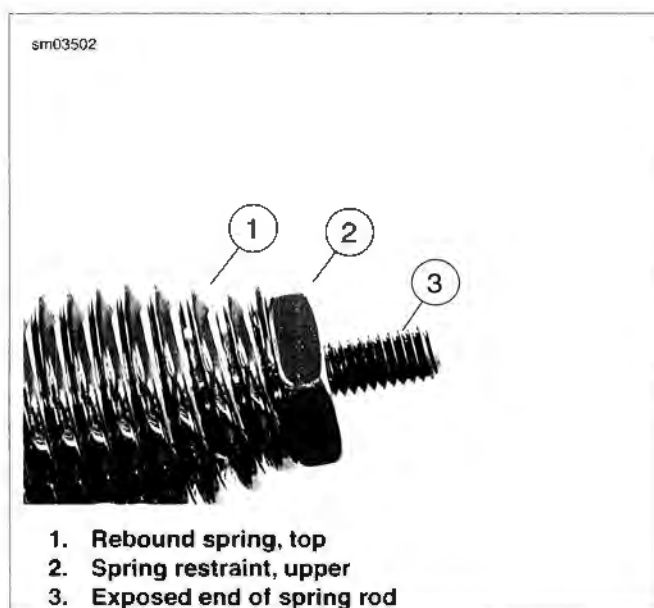

Figure 2-75. Checking Spring Rod
22. See Figure 2-75. Place upper spring restraints (2) in position. Tighten spring bridge restraints until the spring rods protrude 0.625-0.750 in. (16-19 mm) from the tops of the spring restraints.